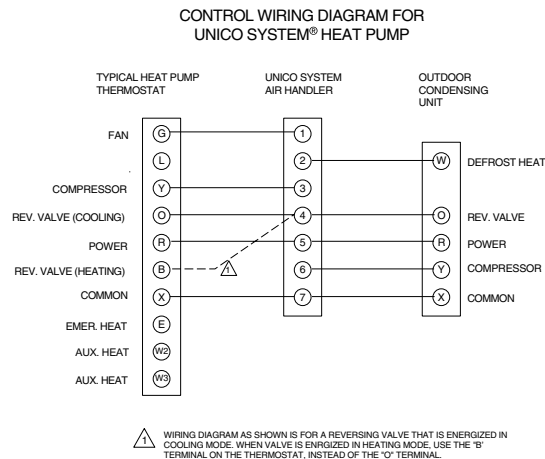

Figure 3. Control Wiring Diagram (without electric Heaters)
4. Connect the thermostat and outdoor unit as shown in Fig. 3. Refer to *Installation Instructions for Electric Heaters, Bulletin 30-34* for wiring instructions with auxiliary electric heaters.